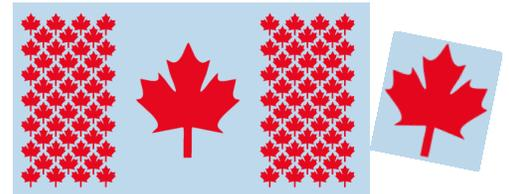

Figure 1
- still on the carrier: one complete flag, plus one leaf (Figure 1)